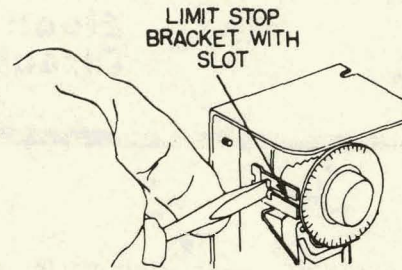

Fig. 5: Sliding Stop to Front of Control to Set High Limit Stop
3. Slide dial stop to front of control (toward dial) against step behind dial, see Fig. 5.